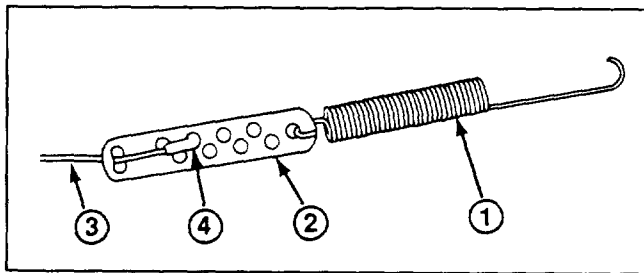

Figure 4
2. Hook spring to round hole at end of cable adjuster (Fig. 4).
3. Route cable through elongated hole in cable adjuster. Insert Z fitting on end of cable into 3rd hole on cable adjuster (Fig. 4).